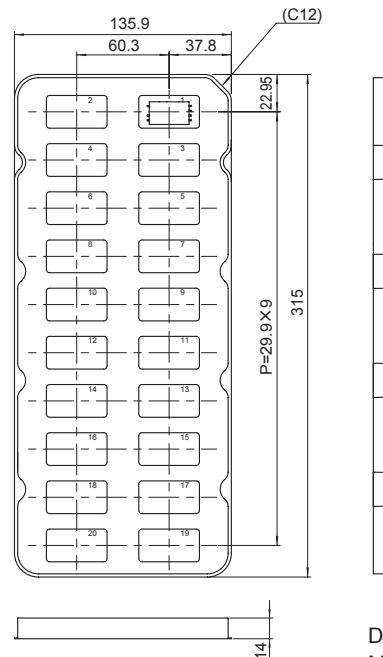

Fig.11.1 Delivery package information
■ These are packed in a tray. (Fig.11.1)